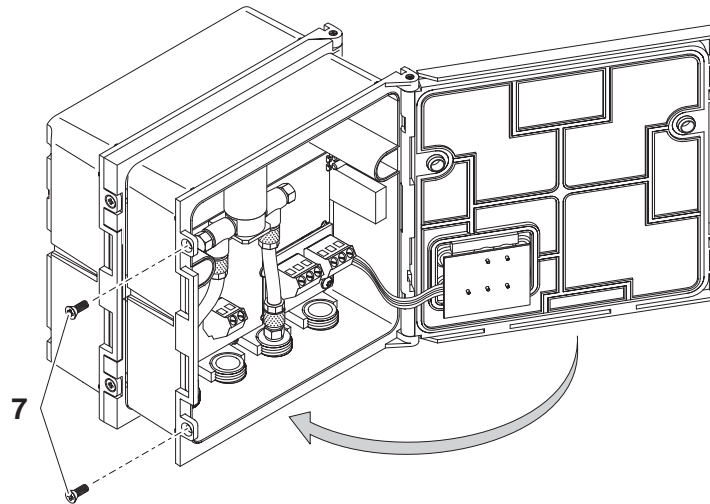

Fig. 3-5 Closing the housing
8	Close the lid of the front module and fix in place with the two countersunk screws (pos. 7 in Fig. 3-5).